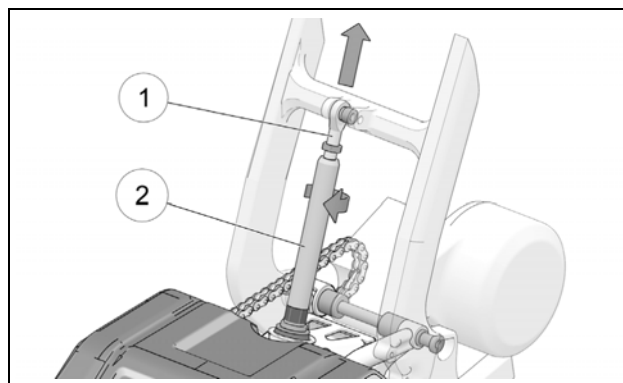

Figure 6
- Loosen the rod end's jam nut. Adjust the length of rod end (1) by turning the strut rod (2) using a 25 mm wrench. See Figure 6.